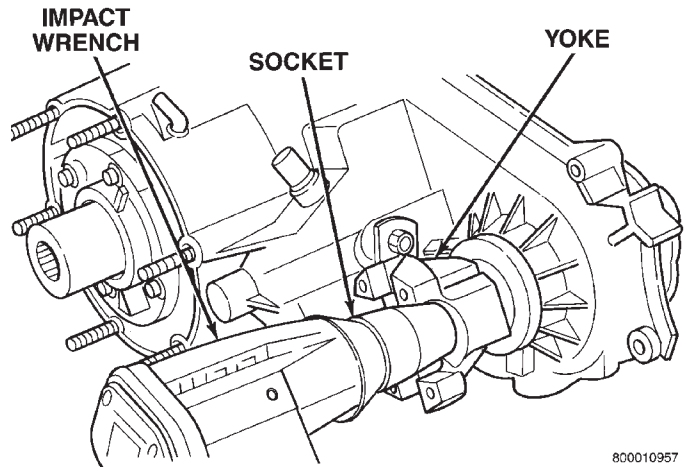

Fig. 16 Yoke Nut Removal
- (1) Remove speedometer adapter.
- (2) Remove front yoke nut:
- (b) Remove nut with socket and impact wrench (Fig. 16).